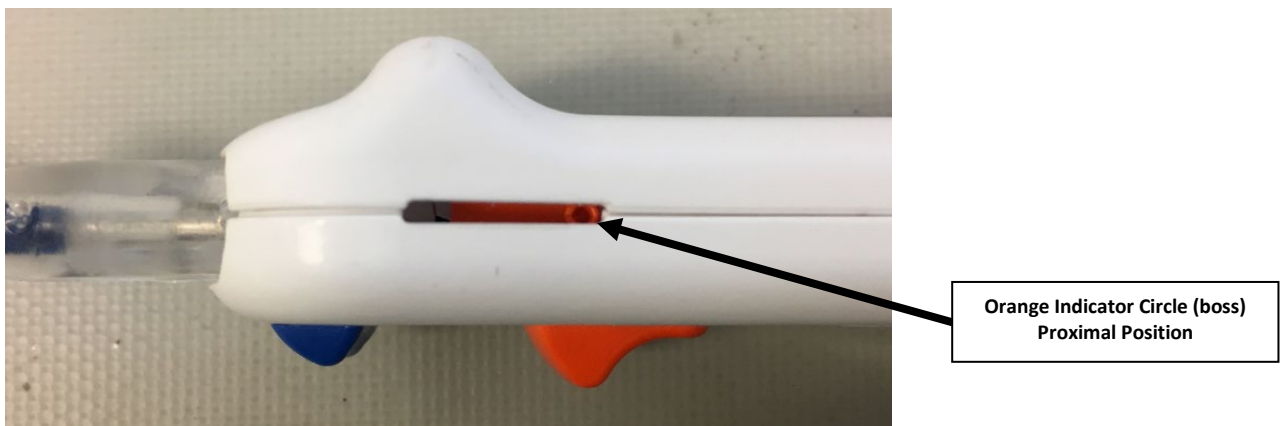
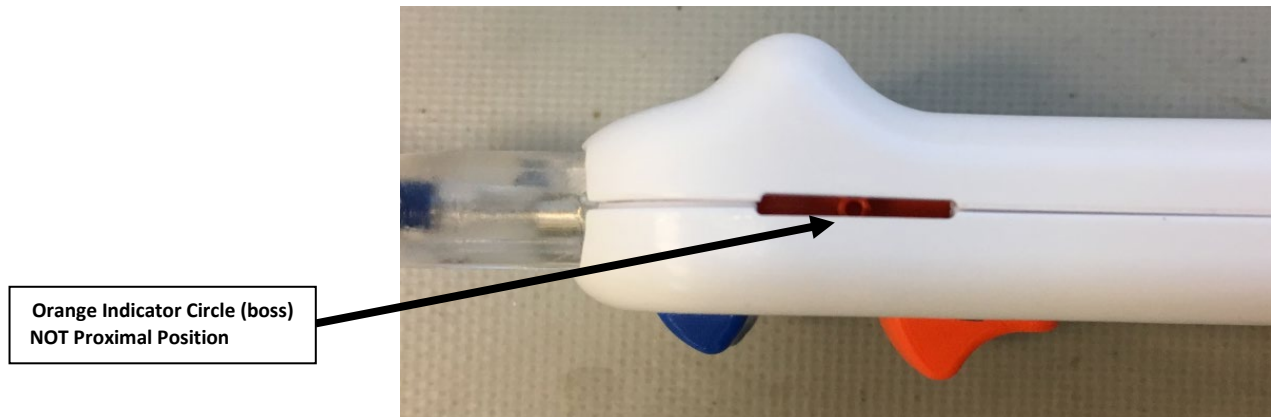
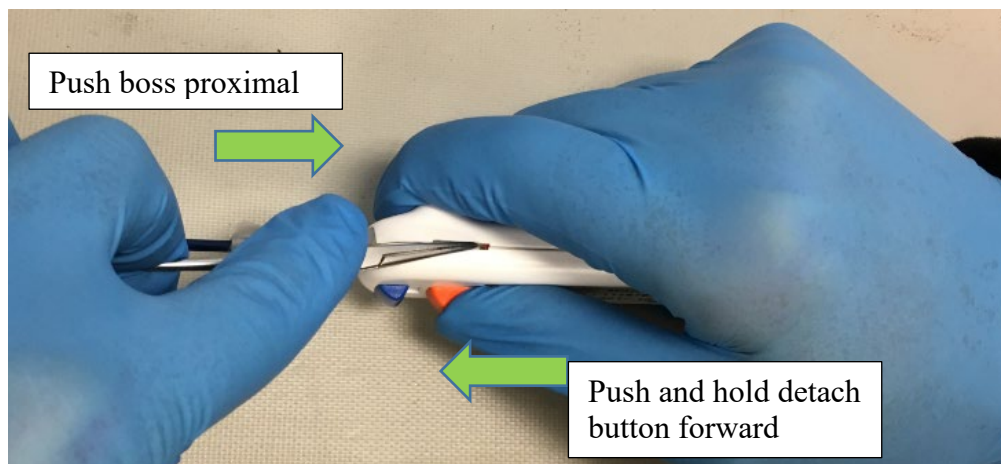

Figure 1: Electrode Detached - Orange Indicator Circle (boss) at Proximal Side of Handle
Figure 2: Electrode not Detached - Orange Indicator Circle (boss) NOT at Proximal Side of Handle
Figure 3: Electrode Manual Release
1. Visual Assessment: On the catheter handle, examine the side port and determine the position of the orange circle (also referred to as “boss”). If it is fully proximal, as shown below in Figure 1, indicating that the Electrode is detached, proceed to release the electrode from the sheath per the IFU. If the “boss” is not proximal (as shown in Figure 2), indicating that the Electrode is not detached, proceed to step 2 below, Manual Detach
2. Manual Detach: While maintaining the position of the Electrode and Delivery Sheath, as shown below in **Figure 3**, push and hold the orange detach button forward and at the same time insert a tool like a forceps or similar into the side port to engage the “boss” (orange circle), and slide the “boss” proximal. The distal tip of the tool should be approximately 1mm diameter and 7mm long to engage the boss feature. Afterwards, release detach button and verify the orange circle (boss) remains fully proximal. If proximal (as shown above in Figure 1), proceed to release the electrode from the sheath per the IFU. If the Orange Indicator Boss is not proximal (as shown in Figure 2, follow the steps in the IFU to remove the Electrode Delivery System.